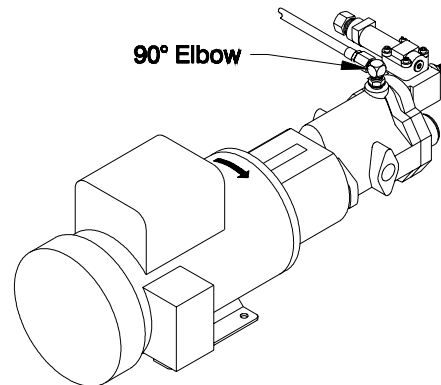

Figure 6. Hydraulic Fluid Level
- 4. Check the hydraulic pump to ensure that the case is full. Remove the 90°-elbow fitting from the top of the pump and determine that the fluid level is to the top of the threaded hole. Add fluid as required and reattach fitting (see Figure 6).